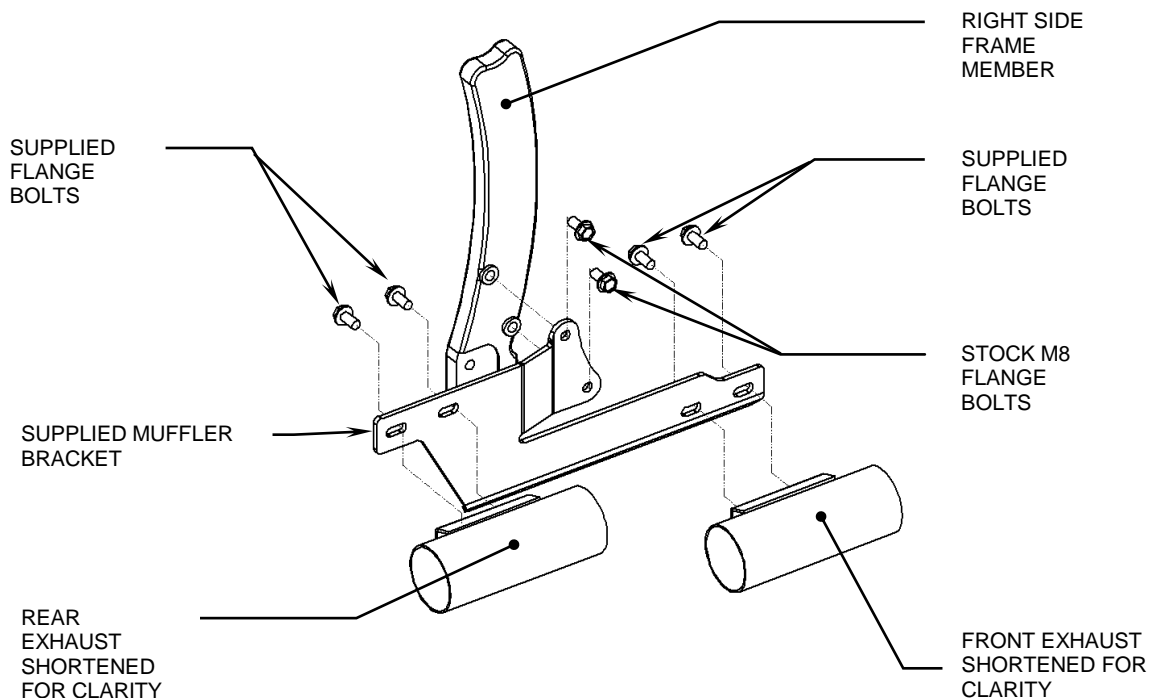

FIGURE 1
3. Remove the exhaust bracket from the box and mount it to the motorcycle frame using the stock bolts retained in Step 1, but **DO NOT TIGHTEN** at this time. (See Figure 1)